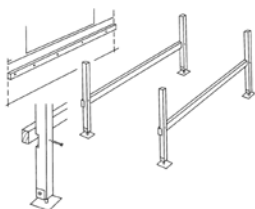

Fig 9 Fix bearers to posts.
- Fix the remaining bearer to the posts using either a housing joint or framing anchor (Fig 9).